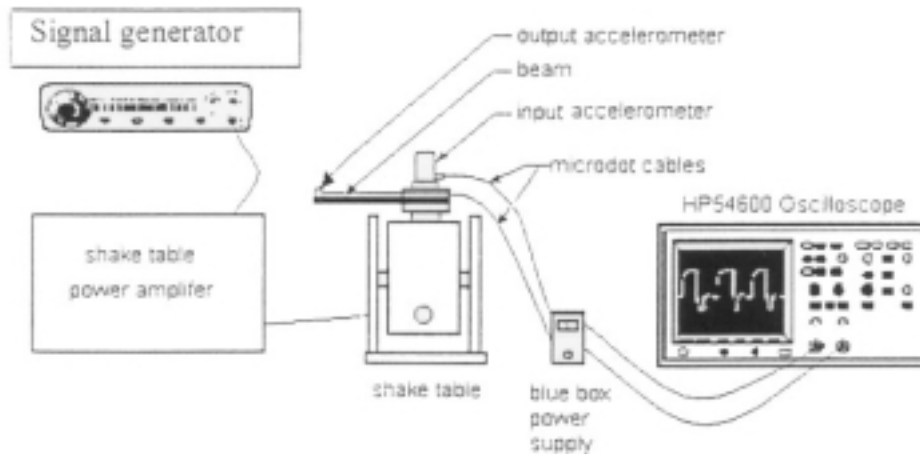

Figure 2: Experimental Setup & Wiring Diagram for the Sine Sweep Test
2. Set up the shake table and the instrumentation according to Figure 2.